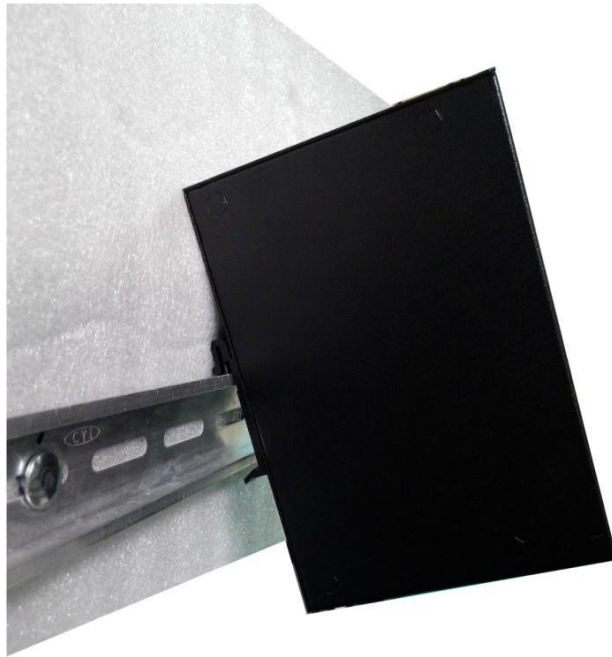

Figure 3.2: Insert the Switch on the DIN-Rail
Step 3 After the DIN-Rail bracket is installed on the rear side of the switch, insert the top of the DIN-Rail on to the track as shown below in Figure 3.2.